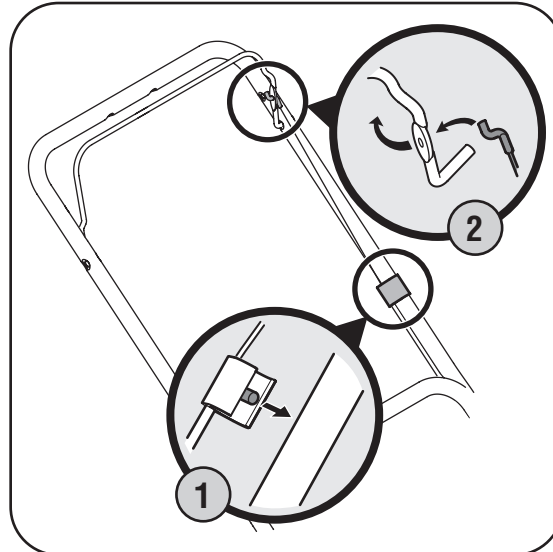

Figure 3-6: Attach the blade control cable.
1. Route the cable under the lower handle. Press the snap fitting into the hole on the upper handle as shown in Figure 3-6.
2. Hook the "Z" end of the blade control cable into the blade control from the outside to the inside. See Figure 3-6.